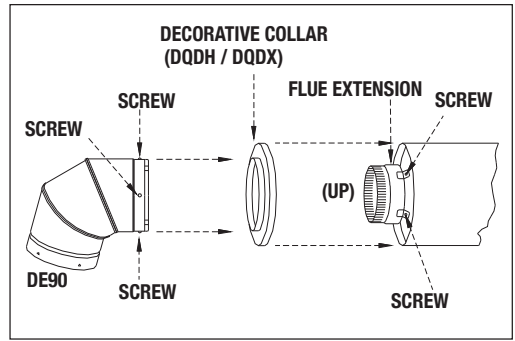

Figure 4
5. Use an adjustable (DL3A) or fixed length (DL) of stove pipe horizontally between the 90° elbow (DE90) and chimney. Attach this length to the chimney and secure the connector pipe to the chimney flue extension using 3 metal screws (see figure 4).
7. If you wish, you may cover the joint between the chimney and the chimney connector, using a trim collar. (DQ)